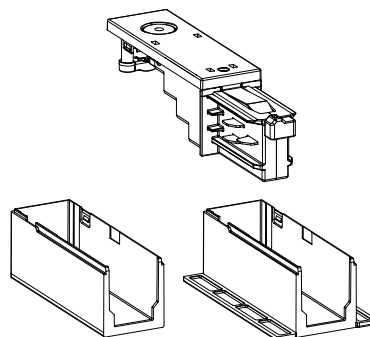

Figure 2
3. Install Recess Cover to the Coupler. **Figure 2**